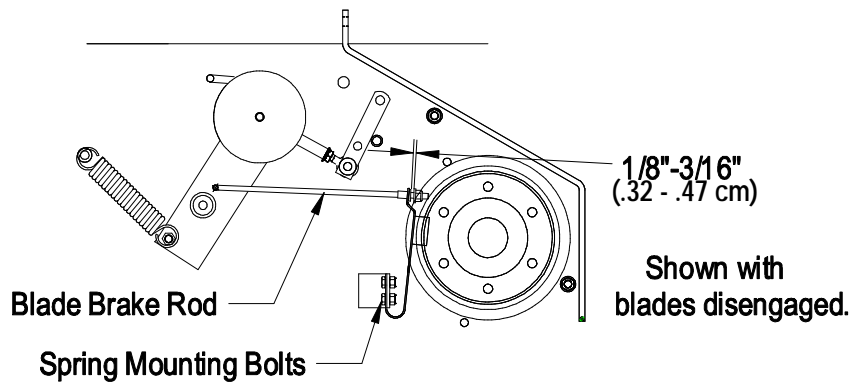

FIGURE 14
- c) Make sure the blade brake pad rests against the sheave. Adjust the spring mounting bolts to properly align the pad on the sheave. See Figure 14.
- d) Check the distance between the spacer and the nut at the end of the blade brake rod. The distance should be between 1/8" (.32 cm) and 3/16" (.47 cm). See Figure 14.